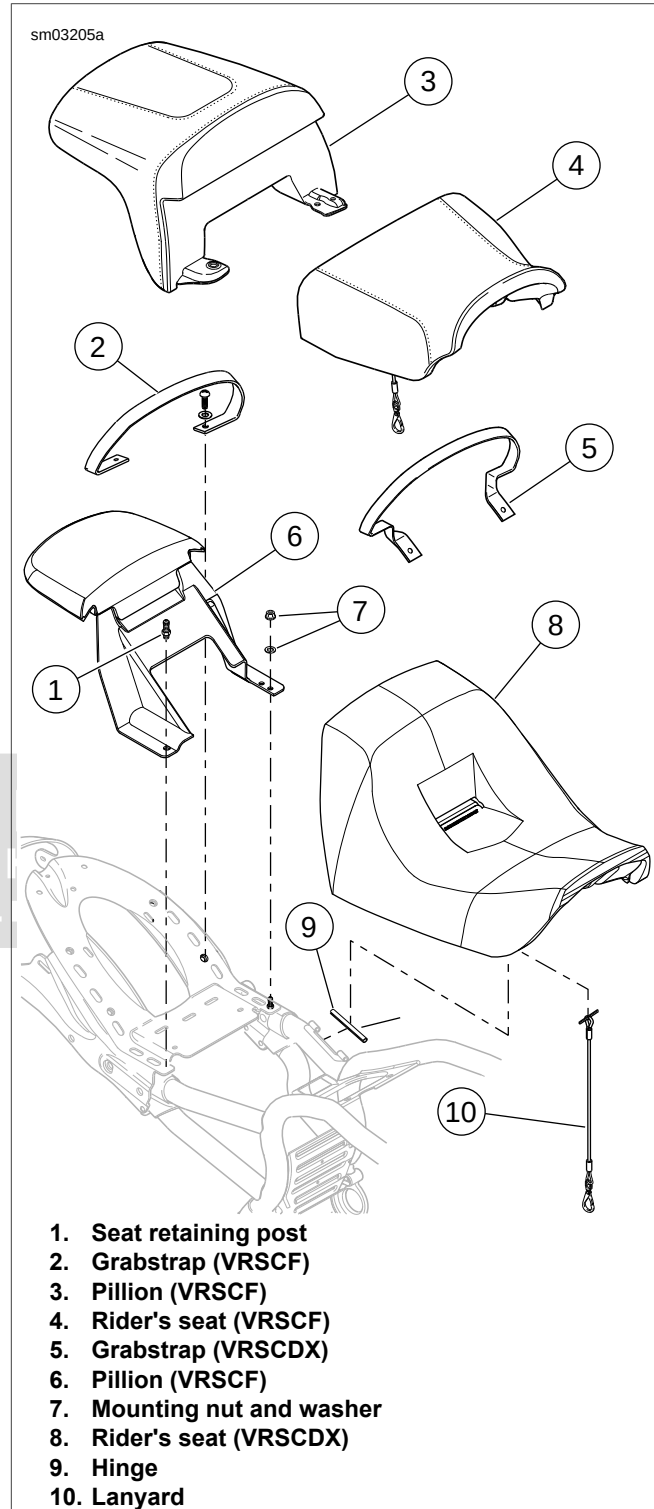

Figure 2-140. Seat and Pillion
2. See Figure 2-140. Remove seat lanyard (10) from the hole in frame.
4. Remove pillion mounting nut and washer (7).
5. Remove seat retaining post (1).
See Figure 2-140. On VRSCDX models, ends of grabstrap (5) must face forward for proper pillion fit.